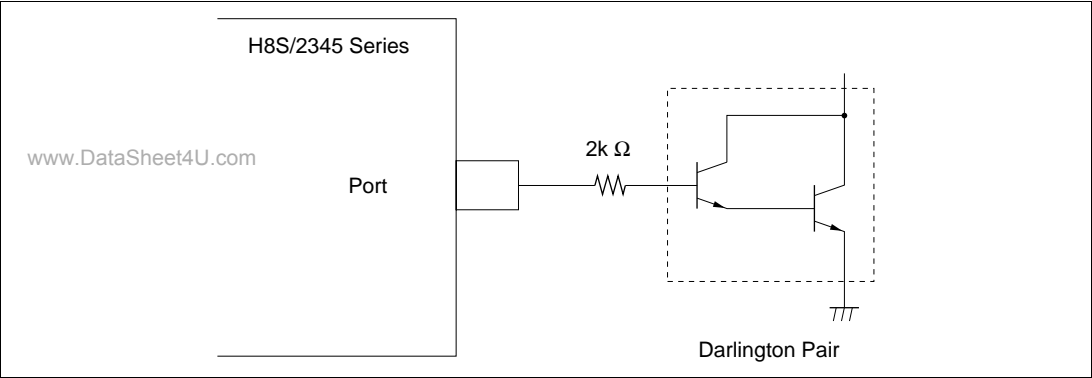

Figure 20.4 Darlington Pair Drive Circuit (Example)
2. When driving a darlington pair or LED directly, always insert a current-limiting resistor in the output line, as show in figures 20.4 and 20.5.